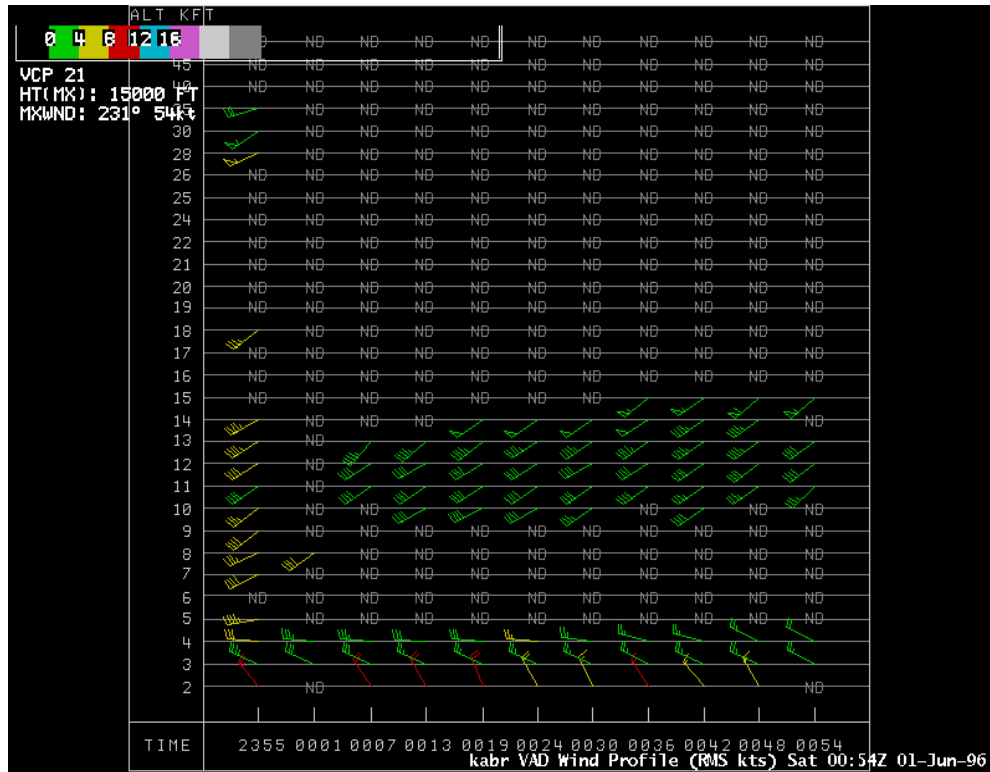

Figure 1. VAD Wind Profile.
10. Using figure 1, the winds appear reasonably accurate in the 10,000 - 15,000 ft range since ____.
For questions 16 and 17, use Fig. 1.
17. Rain occurred shortly after Flash Flood Guidance issuance time. The rain event that you see in Figure 1 occurred much later in the day, after a period of clear air (category 0). Thus the Flash Flood Guidance was invalid for the duration of this event. Which of the above counties would be the HIGHEST priority for further investigation?